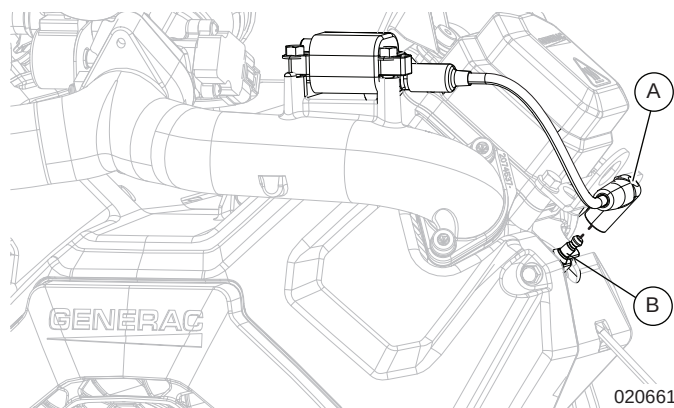

Figure 7-2. Remove Spark Plug Wires
1. See Figure 7-2. Remove spark plug wires (A) from spark plugs (B).